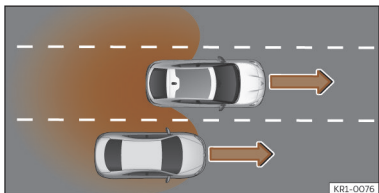

Fig. 136 Overtaking in the central lane and then joining the right lane.
- When overtaking another vehicle >>> **Fig. 136** with a speed difference of approx. 10 km/h (6 mph). If the vehicle is passing at a considerably higher speed, no indication will be displayed.